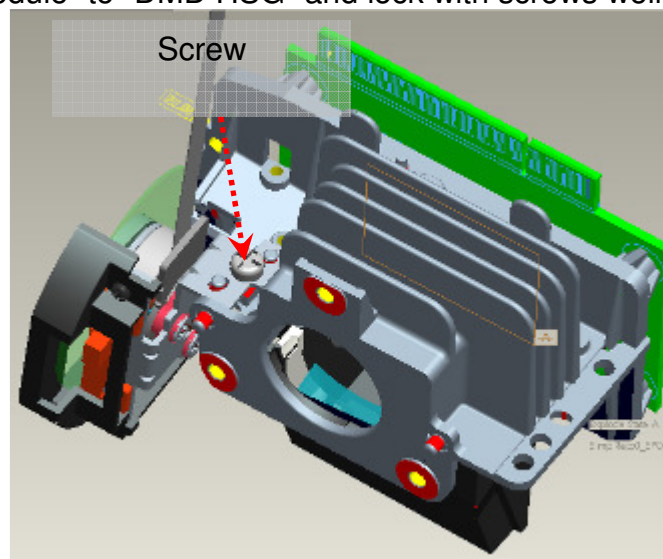

Fig.6-1
6.1 Assemble "CW Module" to "DMD HSG" and lock with screws well (Fig.6-1).